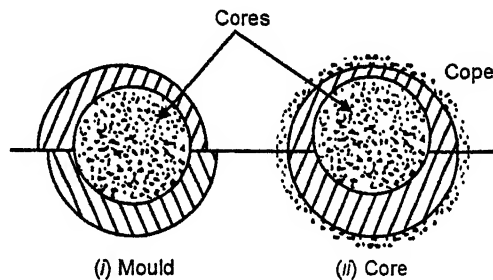

Fig. 8.30. Mismatch.
**4. Mismatch :** Refer to Fig. 8.30.